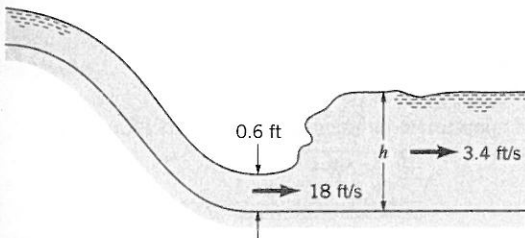

Figure P5.11
5.11 A hydraulic jump (see Video V10.11) is in place downstream from a spillway as indicated in Fig. P5.11. Upstream of the jump, the depth of the stream is 0.6 ft and the average stream velocity is 18 ft/s. Just downstream of the jump, the average stream velocity is 3.4 ft/s. Calculate the depth of the stream, h , just downstream of the jump.